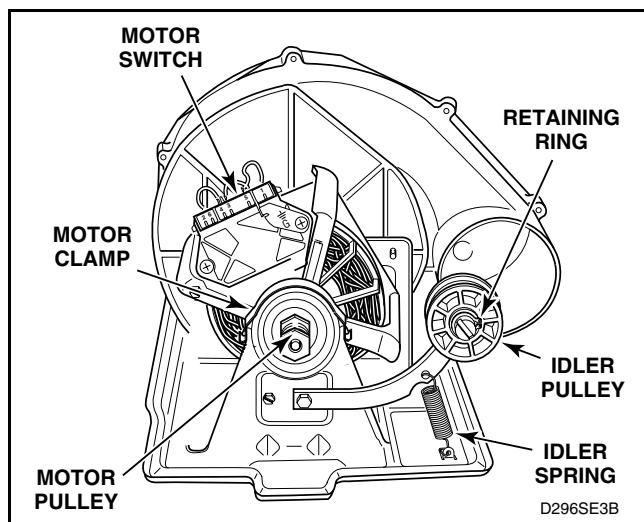

Figure 30
Refer to *Figure 30* for motor and idler pulley removal.
- (2) Pry two motor clamps off motor mounting bracket with screwdriver. Refer to *Figure 30*, then lift motor out of mounting bracket.